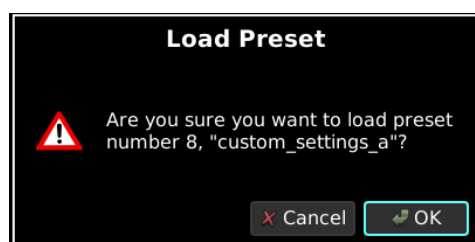

Figure 2-62 Load Preset Screen
3. To load a preset, press the corresponding numerical key on the Remote for at least a half second, select **OK** at the prompt (see the example in Figure 2-62), then press **ENTER**.